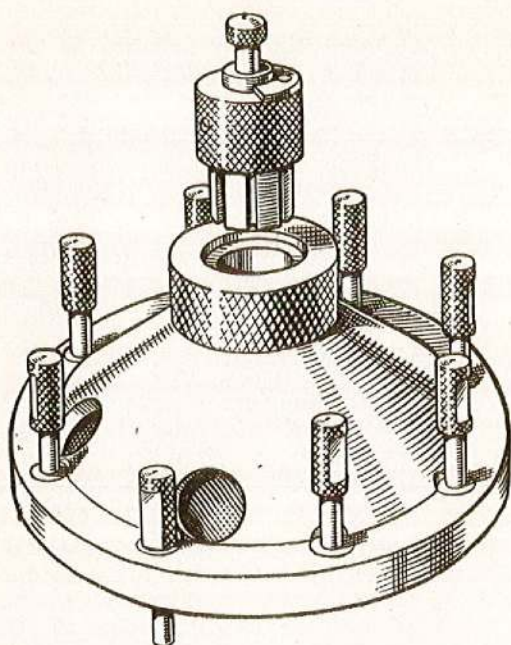

Fig. 23. Concentricity and depth gauge for pump housing and quill shaft
5. Lower the rotor assembly into the body, and check the height of the quill, using the special gauge G46439 (fig. 23). For this check the cam-plate housing (complete with gasket) must be fitted to the pump housing. With the gauge mounted on the flange of the cam-plate housing, lower the locating pins into the holes in both cam-plate housing and pump body, engaging the inner sleeve slots with the splines of the quill shaft and ensure that the sleeve is lowered fully "home". Observe that the quill shaft is of the correct depth, indicated by the top of the plunger gauge being between the steps formed around the top face of the sleeve. If the rotor assembly does not pass this test it must be renewed. Again remove the rotor assembly from the pump housing, subsequently refitting it as described in para. 58.